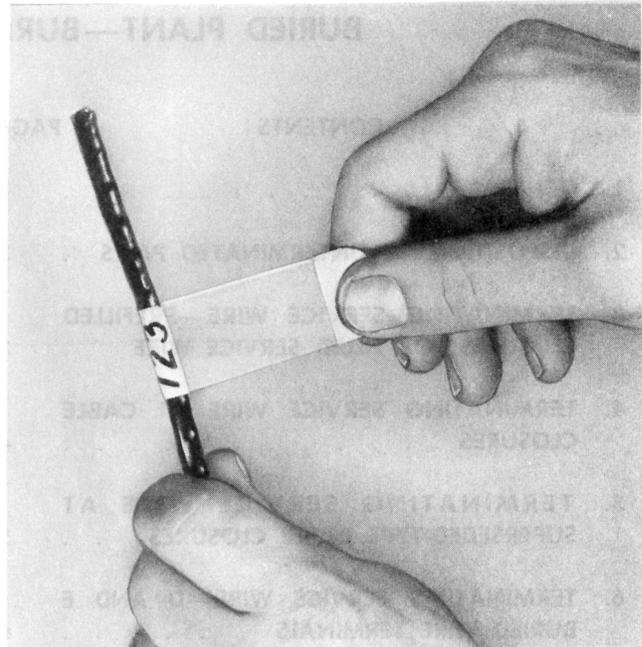

Fig. 1—♦Placing Self-Laminating Label♦
- (b) Remove the label from pad and place on service wire by wrapping it on itself so that the transparent adhesive covers the written identity (Fig. 1).♦
- (1) Twist off and retain locking head from nylon tie.